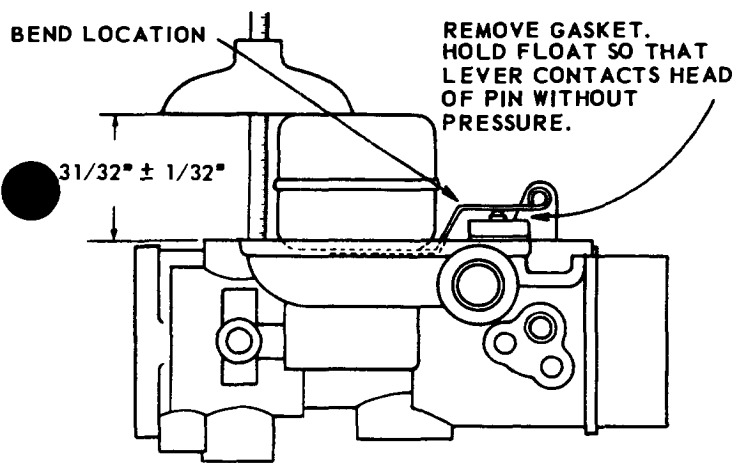

Fig. 5 FLOAT SETTING
Float level set too high: Remove bowl, invert carburetor and set float. See Fig. 5 and Float Setting Instructions, page 39.
Low fuel level: See Fig. 5 and Float Setting Instructions, page 39.
4. FLOAT SETTING (Fig. 5)
- a. **Fuel Level.** Check position of float assembly (36) for correct measurement to obtain proper fuel level, by using a depth gage. **NOTE: Do not bend, twist, or apply pressure on the float body.**
5. Install throttle body to fuel bowl assembly, gasket (37) on machined surface of throttle body (26).
6. Install idle adjusting needle (17) and spring (18). Screw needle **IN** (clockwise) until it seats lightly against the idle discharge hole, then back it out 1½ turns as a preliminary idle adjustment.